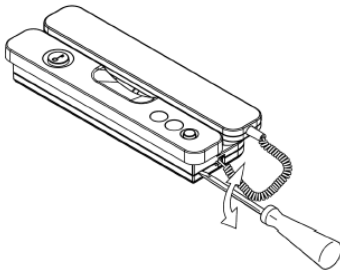

Fig. 1
1. Unfold the uniphone housing by releasing the plastic latches using a screwdriver blade (Fig. 1).